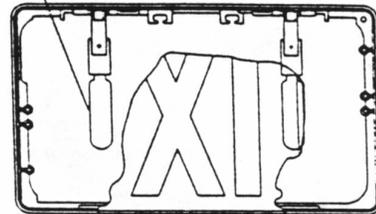

Figure 1
2. Open exit fixture, remove and discard the AC lamps. (See Figure 1) **WARNING:** Use care as lamps may be hot!